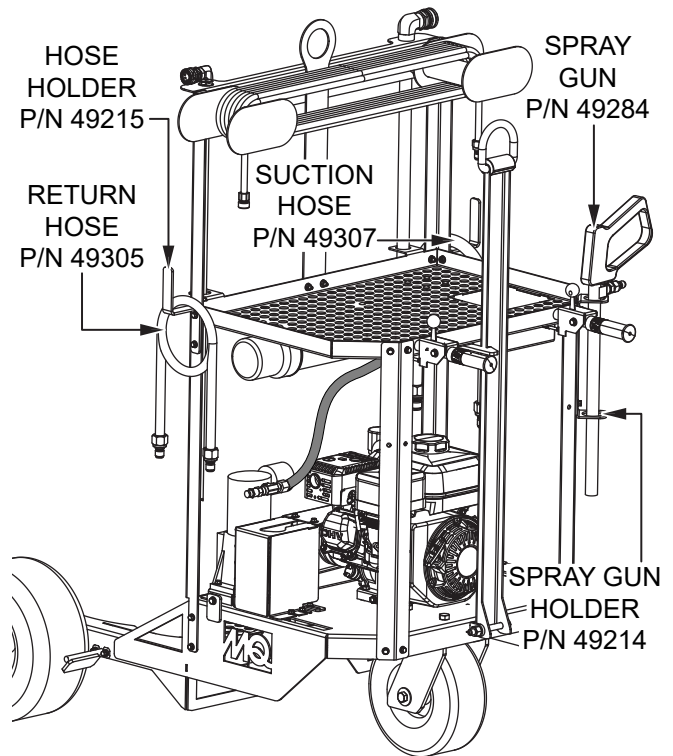

Figure 19. Hoses and Spray Gun
3. Wrap the suction hose (P/N 49307) and return hose (P/N 49305) around the hose holders (P/N 49215). See Figure 19.
4. Place the spray gun (P/N 49284) in the spray gun holder (P/N 49214). See Figure 19.